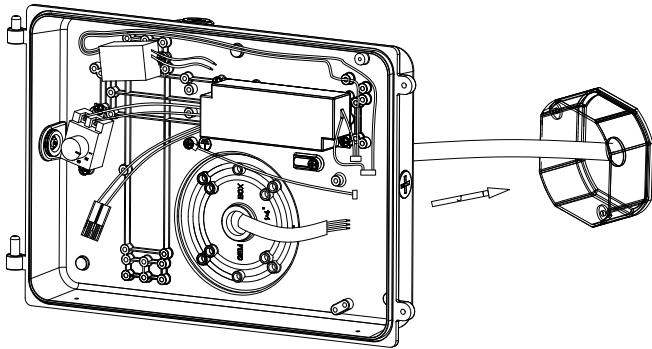

Fig. 1-3A
3. Loosen the plug on the bottom plate, then put the wiring through the hole, screw the bottom cover with the junction box on the wall. Fig. 1-3A & 1-3B